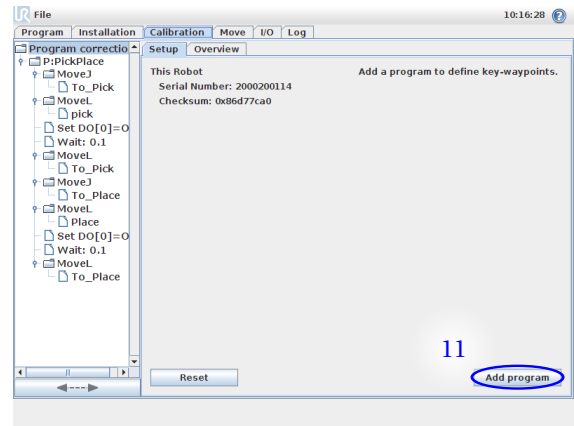

Figure 2.11: Add an additional program by press "Add program" and repeat from step 3.
- (11) Add an additional program by press "Add program", as in step 3 and repeat from step 2.5, see figure 2.11.